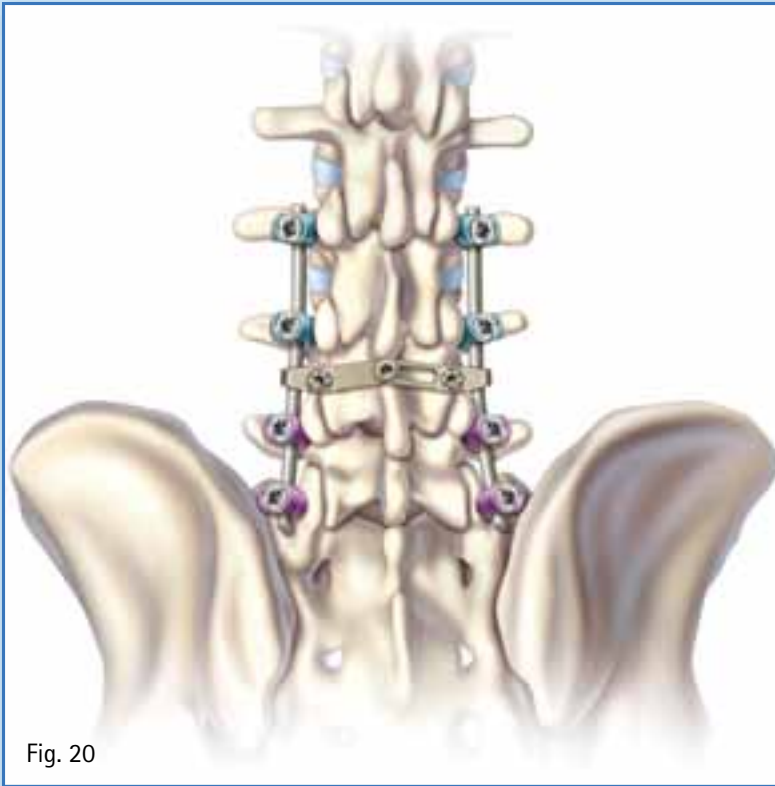

Fig. 20
- Verify there are no obstructions, then insert the cross connector. (Fig. 20)